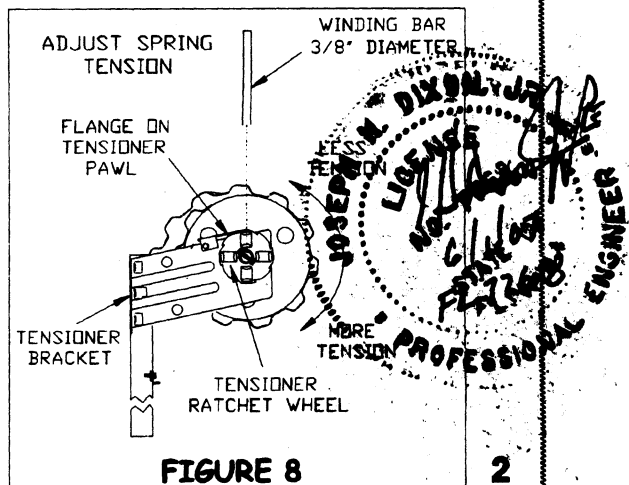

FIGURE 8
- A. Place 3/8" diameter winding bar in tensioner ratchet wheel. See figure 8.